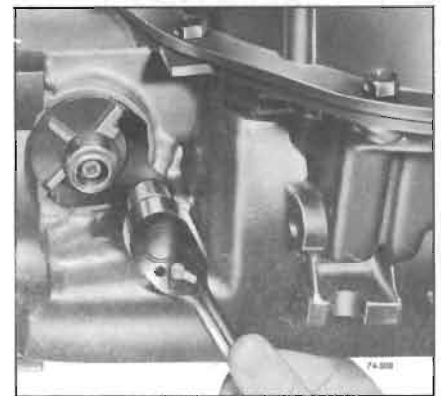

Figure 74-508
3. Remove speedometer driven gear attaching bolt and retainer. See Figure 74-508.